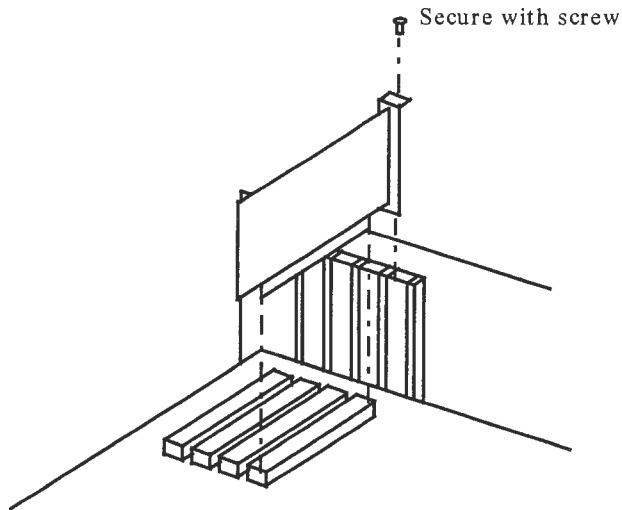

Figure 5: Installing the Interface Board (ISA Bus)
3. Install the interface board. Be sure to secure the board with a screw, or the board may be pulled loose when the interface cable is removed (see Figure 5). Use the screw provided with the PC for this purpose.